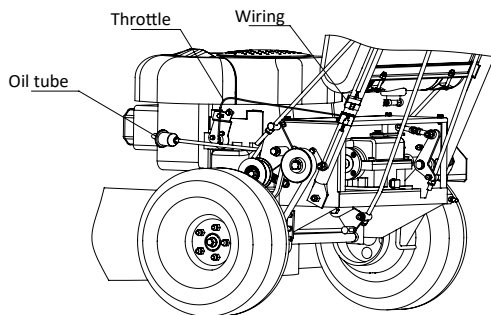

FIG. 5
- The throttle cable must be connected to the engine according to the engine operator's manual. The fuel tank line connects to the engine line. (The positions of the fuel filter and the throttle cable attachment are slightly different on different engine models). See FIG 5